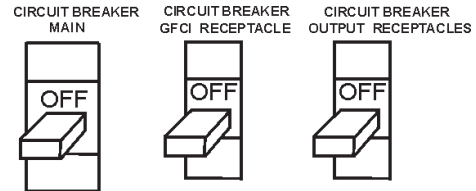

Figure 77. Main, GFCI and Load circuit breakers
1. Switch both the MAIN, GFCI and LOAD circuit breakers (Figure 77) to the "OFF" position.